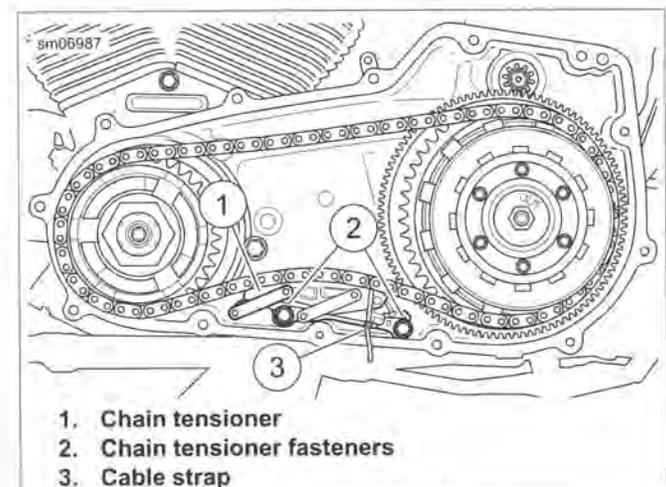

Figure 5-5. Chain Tensioner
4. See Figure 5-5. Remove chain tensioner fasteners (2). Remove chain tensioner (1).